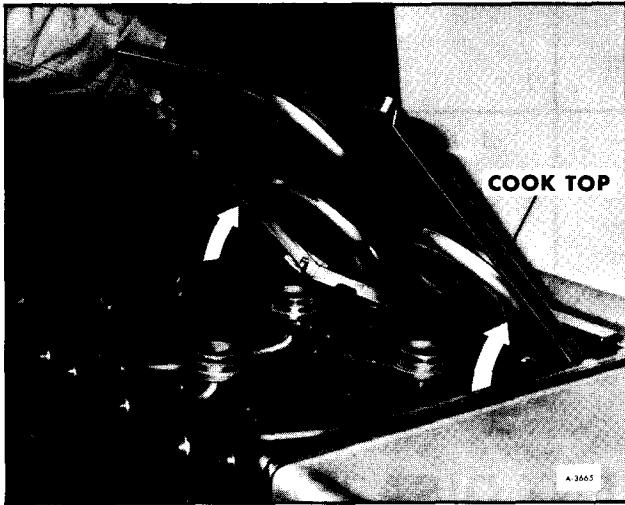

Figure 8—Cook Top Removal
2. Remove cook top and grates (See figure 8).
2. Remove cook top and grates (figure 8).
1. Remove cook top and grates (figure 8).